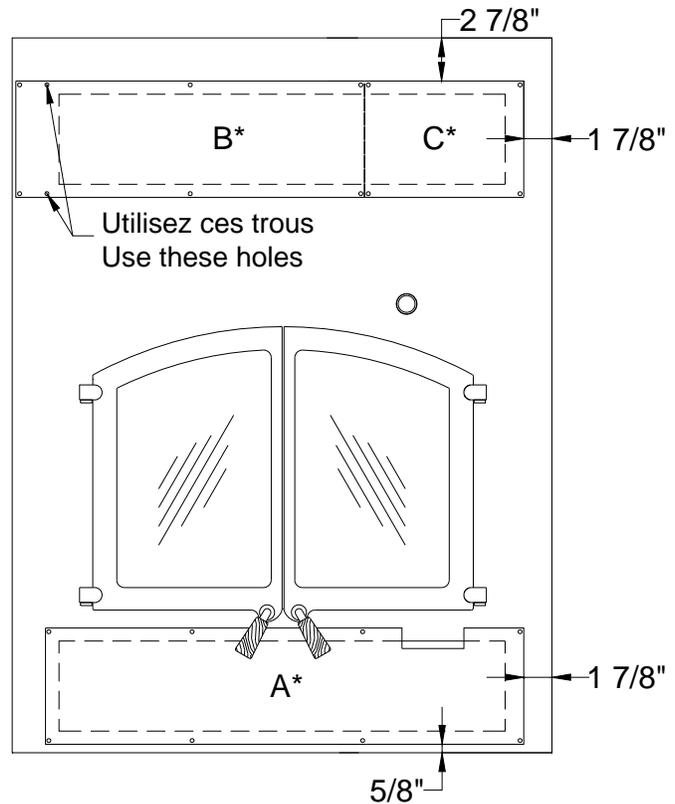

Figure 2 Installation des plaques d'obstruction sur
10. You will need to break the double plate with no notches "B-C" in two pieces, see Figure 2. Simply bend it back and forth a couple of times and it will break apart. Make sure to install the smallest plate "C" on the right side as shown in Figure 2 because it provides access to the air control behind the louver opening. Make sure to install the "A" plate as shown in Figure 2. If you intend on using the Rock Retainer Kit (FO-KP3), please do not install any of the plates since the rock retainer kit provides its own integrated plates for both louver openings.
11. Using the self-tapping screws provided, install the plates as shown in Figure 2.